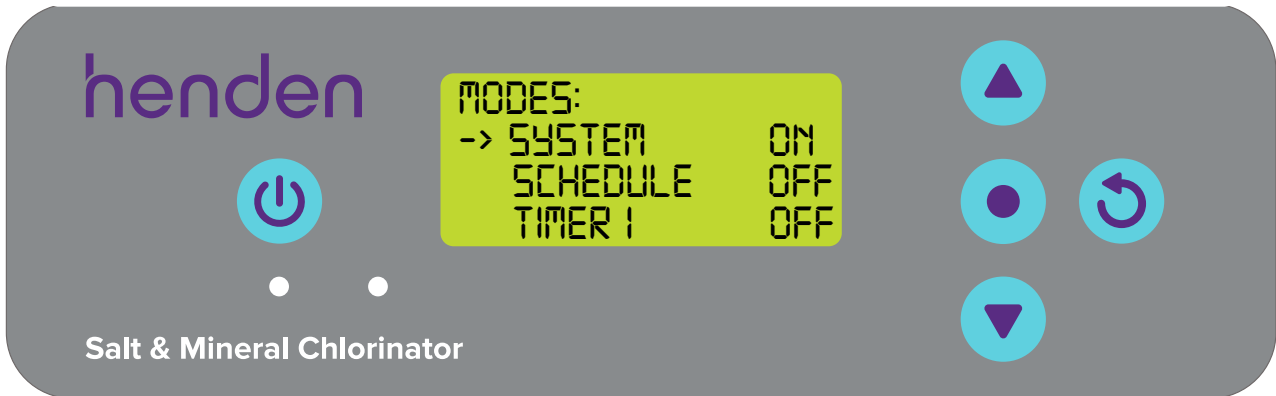

Figure 9.9
- From the MODES menu, select SYSTEM (refer Figure 9.9).